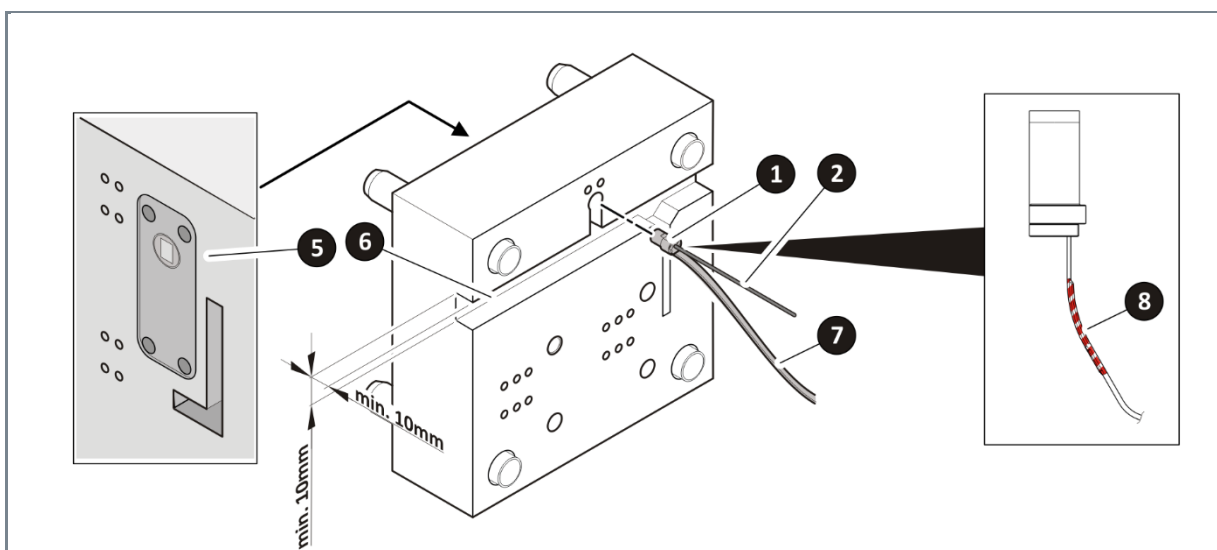

Fig. 5 Installation of a DynamicMold® Insert
2. Carefully put the DynamicMold® Insert (Fig. 5, ①) through the opening (Fig. 5, ③) of the mold (Fig. 5, ④). Use the insertion aid (Fig. 5, ②).
3. Guide the base body of the DynamicMold® Insert until the surface of the housing head (Fig. 5, ⑤) is lying even with the cavity's edges.
4. Route the cable for the DynamicMold® Insert in the cable duct (Fig. 5, ⑥) as specified in Chapter 5.1.
- ▶ The marked area on the flat ribbon cable (Fig. 5, 8) may only be slightly bent and has a minimum bending radius of 20 mm (semi-dynamic). The bending radius of the remaining flat ribbon cable is 5 mm (semi-dynamic). Dynamic bending is not allowed (see 9).
- ▶ The minimum dimensions of the cable duct (Fig. 5, 6) must be 8 mm x 5 mm (width x height). The cable duct should not have any corners or edges that could potentially damage the cable.